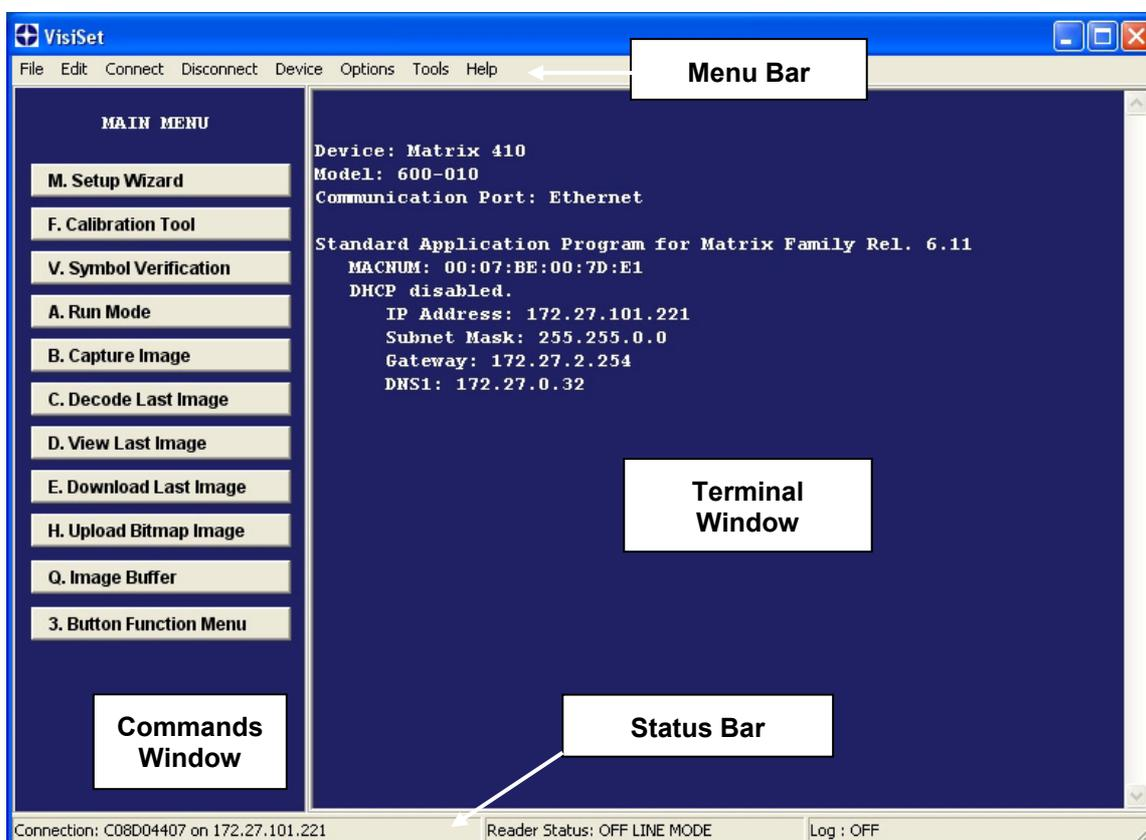

Figure 124 - Main Window
Upon connection, Matrix 410™ exits Run Mode and displays the Main Menu on VisiSet™ with all the commands necessary to monitor your reader's performance. You can select these commands using the mouse or by pressing the key corresponding to the letter shown on the button. See Figure 124.
The **Options** item from the VisiSet™ menu (see Figure 124) presents a window allowing you to configure:
6. Close the Parameter Setup window and press **Disconnect** on the VisiSet™ menu bar (see Figure 124) or launch **Run** Mode from the VisiSet™ Main menu.